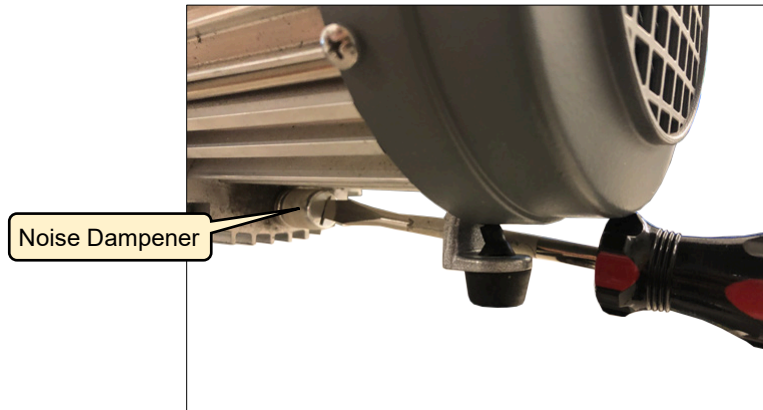

Figure 89: Pump Noise Dampener Removal
2. Slide the adapter gasket PN 22929 onto the adapter fitting PN 22928 (Figure 89), screw it into the pump exhaust port, and then tighten it 1/4 turn using a 9/16" wrench.